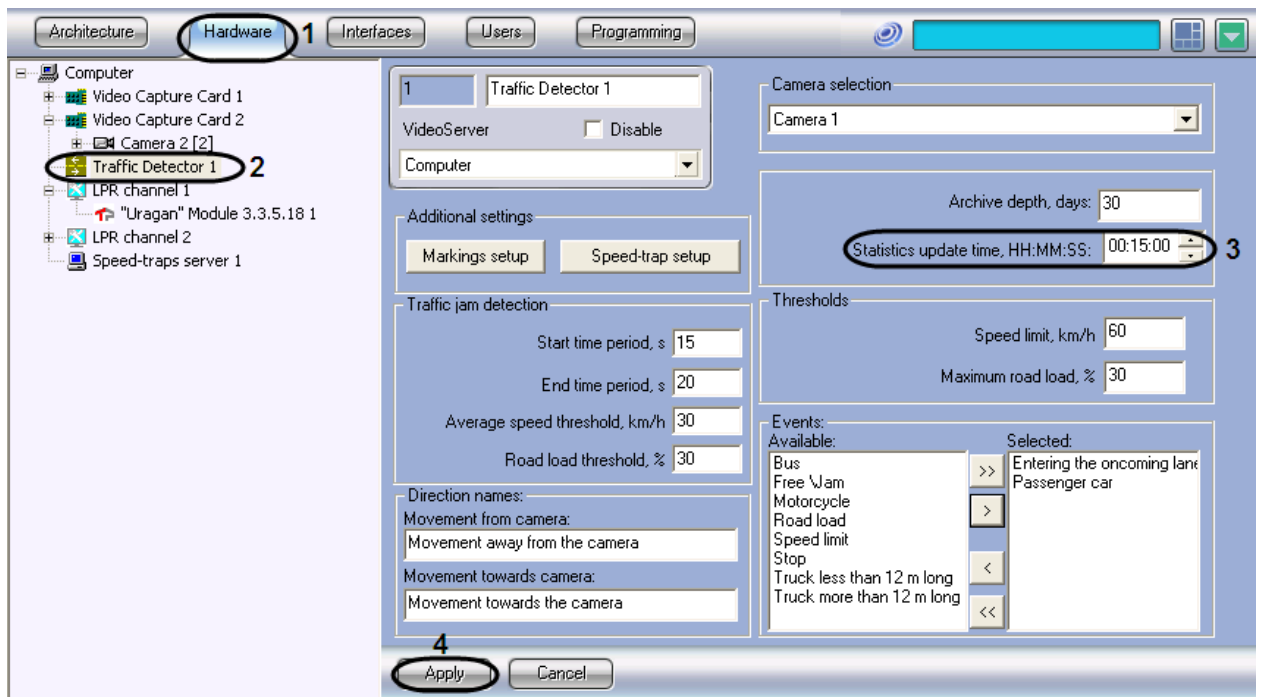

Fig. 7.4-3 Setting up the statistics update period
- In the object tree on the left side of the Hardware tab, select the Traffic Detector object representing the Traffic Detector module to be set up. The settings panel of the selected object will open on the right side of the window (see Fig. 7.4-3).
4. Click Apply (see Fig. 7.4-3).